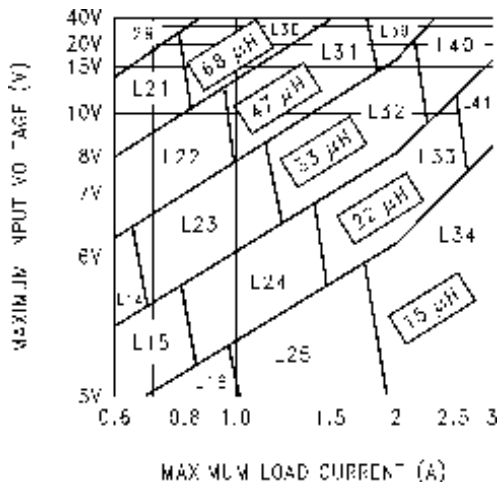
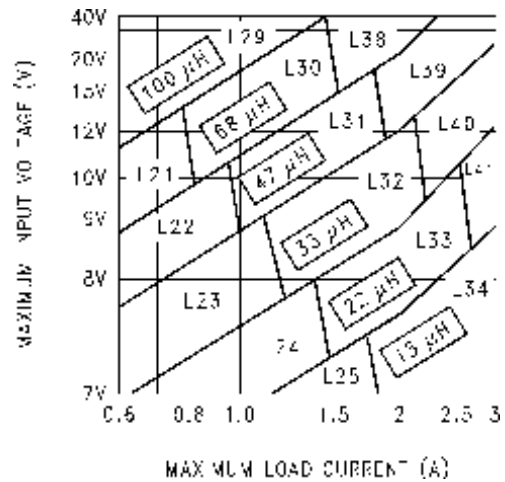
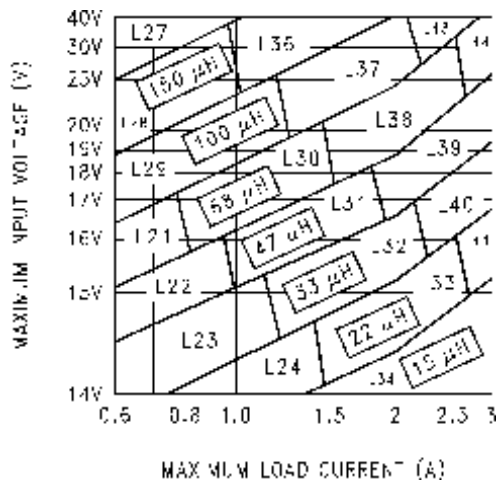
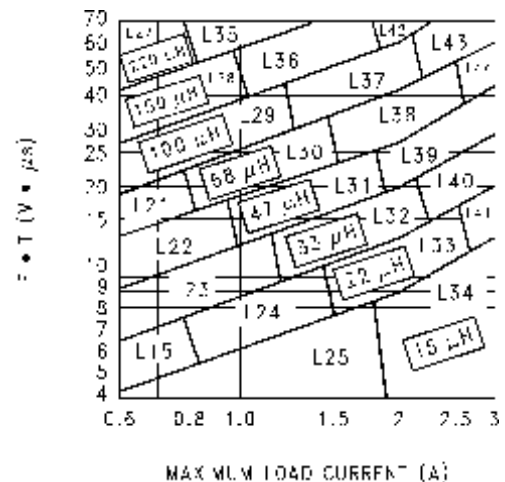

Figure 9-5. LM2596-3.3
Figure 9-6. LM2596-5.0
Figure 9-7. LM2596-12
Figure 9-8. LM2596-ADJ
To simplify the inductor selection process, an inductor selection guide (nomograph) was designed (see Figure 9-5 through Figure 9-8). This guide assumes that the regulator is operating in the continuous mode, and selects an inductor that will allow a peak-to-peak inductor ripple current to be a certain percentage of the maximum design load current. This peak-to-peak inductor ripple current percentage is not fixed, but is allowed to change as different design load currents are selected (see Figure 9-4.)
For continuous mode operation, see the inductor selection graphs in Figure 9-5 through Figure 9-8.
In a switching regulator design, knowing the value of the peak-to-peak inductor ripple current ( $\Delta I_{IND}$ ) can be useful for determining a number of other circuit parameters. Parameters such as peak inductor or peak switch current, minimum load current before the circuit becomes discontinuous, output ripple voltage, and output capacitor ESR can all be calculated from the peak-to-peak  $\Delta I_{IND}$ . When the inductor nomographs in Figure 9-5 through Figure 9-8 are used to select an inductor value, the peak-to-peak inductor ripple current can immediately be determined. Figure 9-9 shows the range of ( $\Delta I_{IND}$ ) that can be expected for different load currents. Figure 9-9 also shows how the peak-to-peak inductor ripple current ( $\Delta I_{IND}$ ) changes as you go from the lower border to the upper border (for a given load current) within an inductance region. The upper border represents a higher input voltage, while the lower border represents a lower input voltage.
The selection guide in Figure 9-6 shows that the vertical line for a 2.5-A load current and the horizontal line for the 12-V input voltage intersect approximately midway between the upper and lower borders of the 33- $\mu\text{H}$  inductance region. A 33- $\mu\text{H}$  inductor allows a peak-to-peak inductor current ( $\Delta I_{IND}$ ), which is a percentage of the maximum load current, to flow. In Figure 9-9, follow the 2.5-A line approximately midway into the inductance region, and read the peak-to-peak inductor ripple current ( $\Delta I_{IND}$ ) on the left hand axis (approximately 620 mAp-p).
1. Select the correct inductor value selection guide from Figure 9-5, Figure 9-6, or Figure 9-7 (output voltages of 3.3 V, 5 V, or 12 V respectively). Use the inductor selection guide for the 5-V version shown in Figure 9-6.
2. From the inductor value selection guide, identify the inductance region intersected by the maximum input voltage line and the maximum load current line. Each region is identified by an inductance value and an inductor code (LXX). From the inductor value selection guide shown in Figure 9-6, the inductance region intersected by the 12-V horizontal line and the 3-A vertical line is 33  $\mu$ H, and the inductor code is L40.